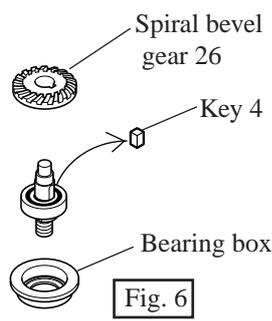

Fig. 6
- (4) Spiral bevel gear 26 can be separated from the shaft of drill chuck S-10 by hand. And then remove bearing box. See Fig. 6. Be careful, not to lose key 4 in this step.